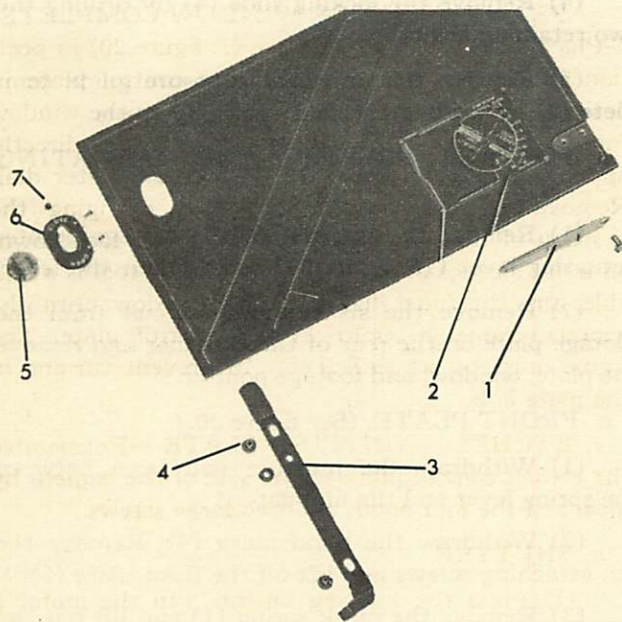

Figure 29—Cover Complete—Exploded View
a. COVER. (See figure 29.)
(1) Remove the shoulder screw from the sliding lever (1). Remove the four hinge retaining screws and lift the cover from the case.
(2) To remove the cover latch knob (5), force a small screwdriver beneath the washer on the inside of the cover and force the washer off the peened head of the knob stud. Removal of the knob will release the cover lock knob locating stud (7).
(3) Remove the lock indicator plate (6) by drilling the two attaching rivets.
(4) Remove the locking slide (4) by drilling the two retaining rivets.
(5) Remove the universal exposure guide complete (2) by drilling the four retaining rivets.